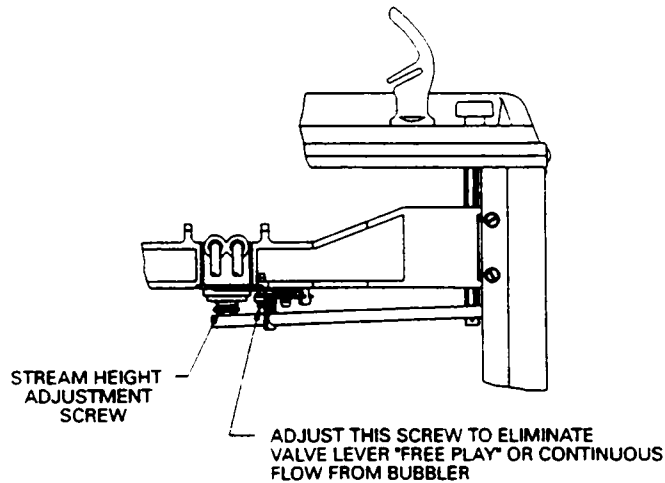

FIG. 4
- 9). Stream height is factory set at 35 PSI. If supply pressure varies greatly from this, readjust stream height to approximately 1-1/2" above the bubbler guard by turning adjustment screw on regulator. ( See push button valve adjustment - Figure 4).
- 12). Replace the front panel and secure by replacing the two (2) screws . Then replace the toe plate and its two (2) screws and tighten securely.